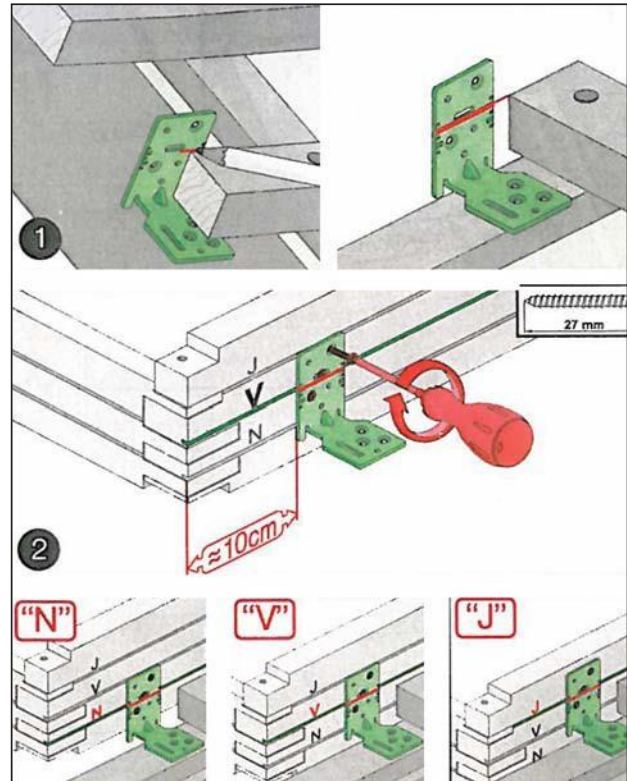

Fig 26
32) Fit the flashing system as detailed above. The top of the purlin lines up with groove marked "N" on the frame (Fig 26).